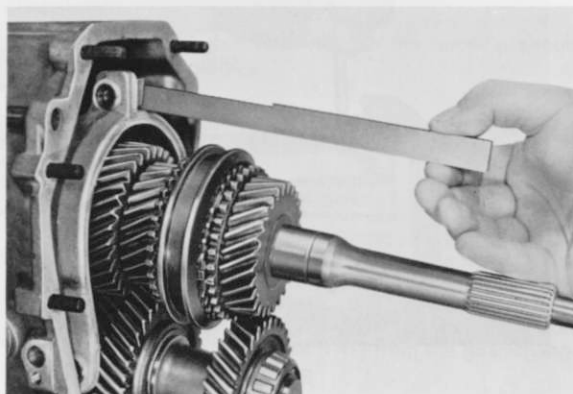

Fig. 15
1. Take off selector fork 4th and 5th gear (601).
2. Dismantle selector rods (608, 612 and 614) (Fig. 15).